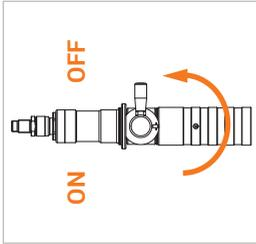

Figure 5
- ▶ Turn the actuation lever (Pos. 3) on the fueling nozzle through 180° to the OFF position (Figure 5).